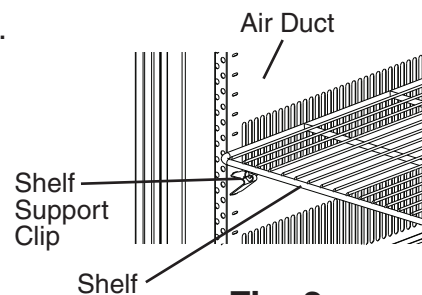

Fig. 2
1. Place the shelf support clips into the pilasters and air duct (4 shelf support clips per shelf). See Fig. 2.